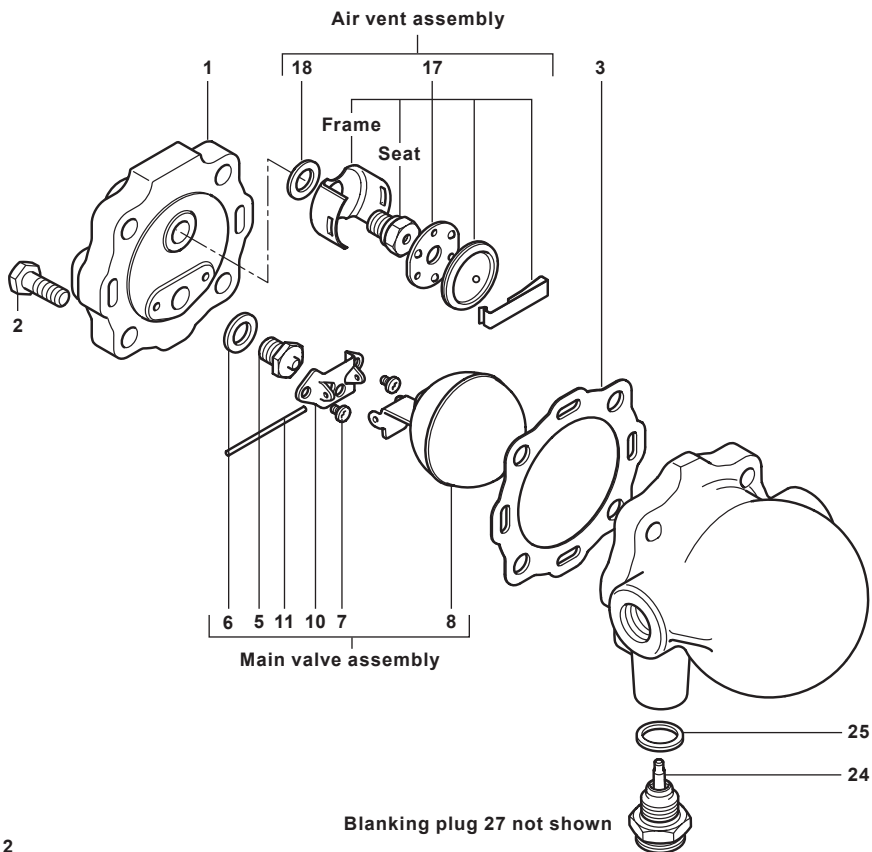

Fig. 2
Warning: The cover gasket (item 3, Figure 2) contains a thin stainless steel support ring which may cause physical injury if not handled and disposed of carefully.